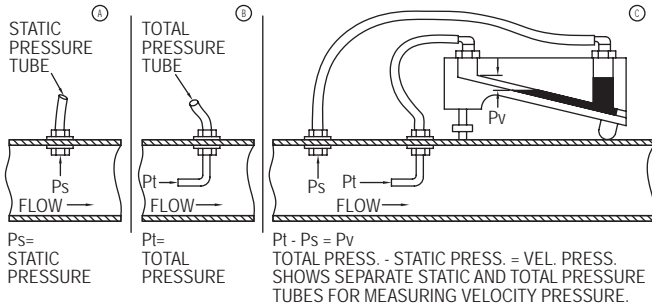

Figure 2 - Types of pressure measurements
In Figure 2, note that separate static connections (A) and total pressure connections (B) can be connected simultaneously across a manometer (C). Since the static pressure is applied to both sides of the manometer, its effect is cancelled out and the manometer indicates only the velocity pressure.